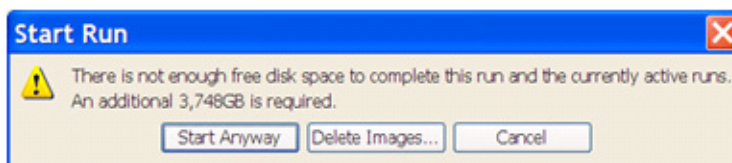

Figure 37 This Start Run dialog appears if there is not enough room to store data for the run.
2. If there is not enough room to store the data, the Start Run dialog appears (see Figure 37). Choose the appropriate option (see Table 7).